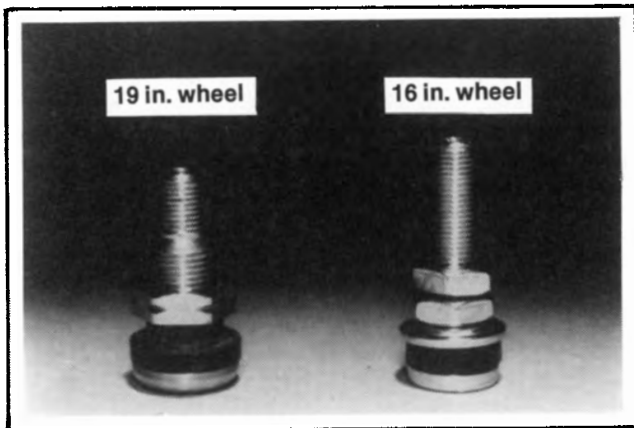

Figure 2-27. Threaded Stem Tire Valve
- A. See Figure 2-27. Place rubber grommet on valve stem with shoulder in recess of the valve stem head. Insert valve stem center facing away from rim. Install first hex nut and tighten to 20-25 in-lbs torque. Tire valves for 19 in. rims have only one nut that must be tightened to 35-40 in-lbs torque. Install second hex nut. While holding first nut with a wrench, tighten second nut to 40-60 in-lbs torque.